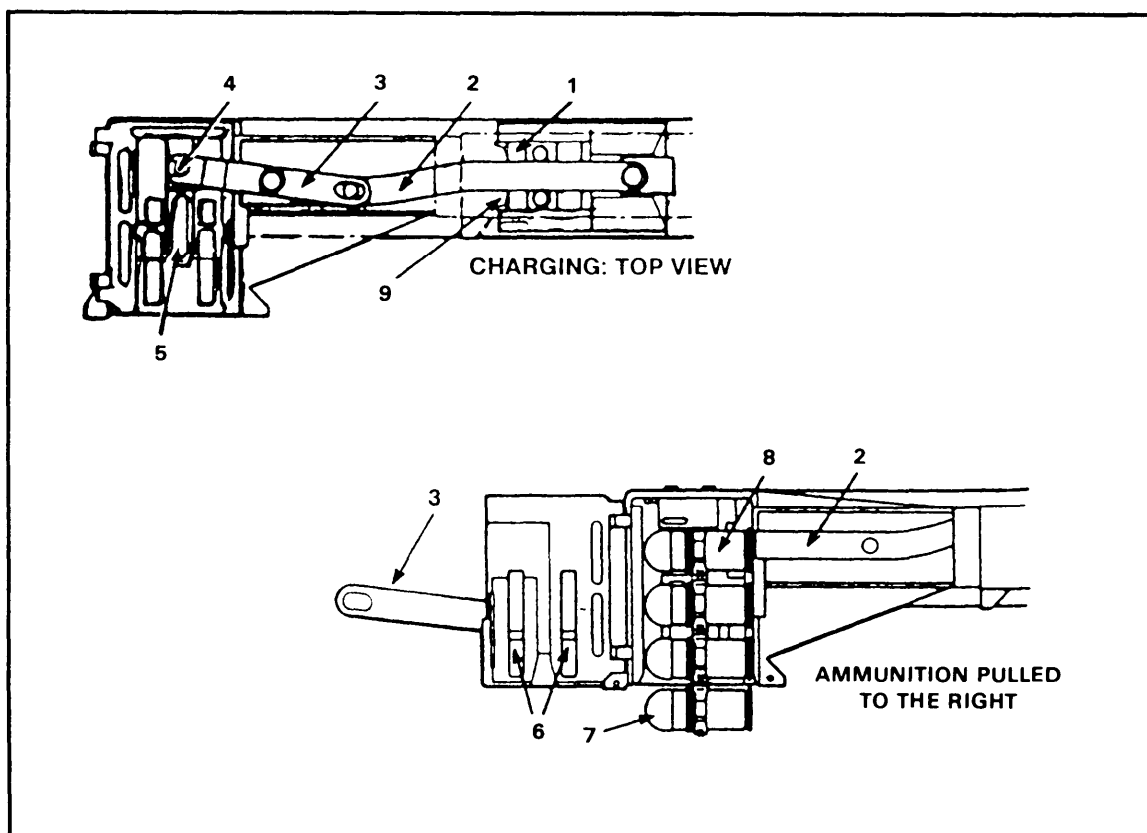

Figure 2-25. Charging cycle.
a. Charging. The charger handles (Figure 2-25) are to pull the bolt (1) to the rear, aligning the round the bolt extractors. The rearward movement of the bolt